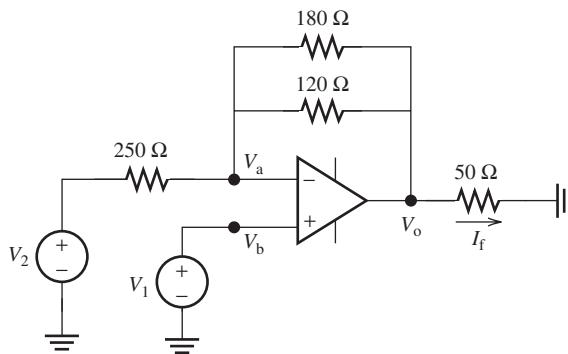

FIGURE P8.75 Circuit for Problem 8.75.
- 8.75 (B)*** For the circuit shown in Figure P8.75, the input voltages are $V_1 = 15 \text{ V}$ and $V_2 = 10 \text{ V}$. Determine the current, I_f , in the figure.